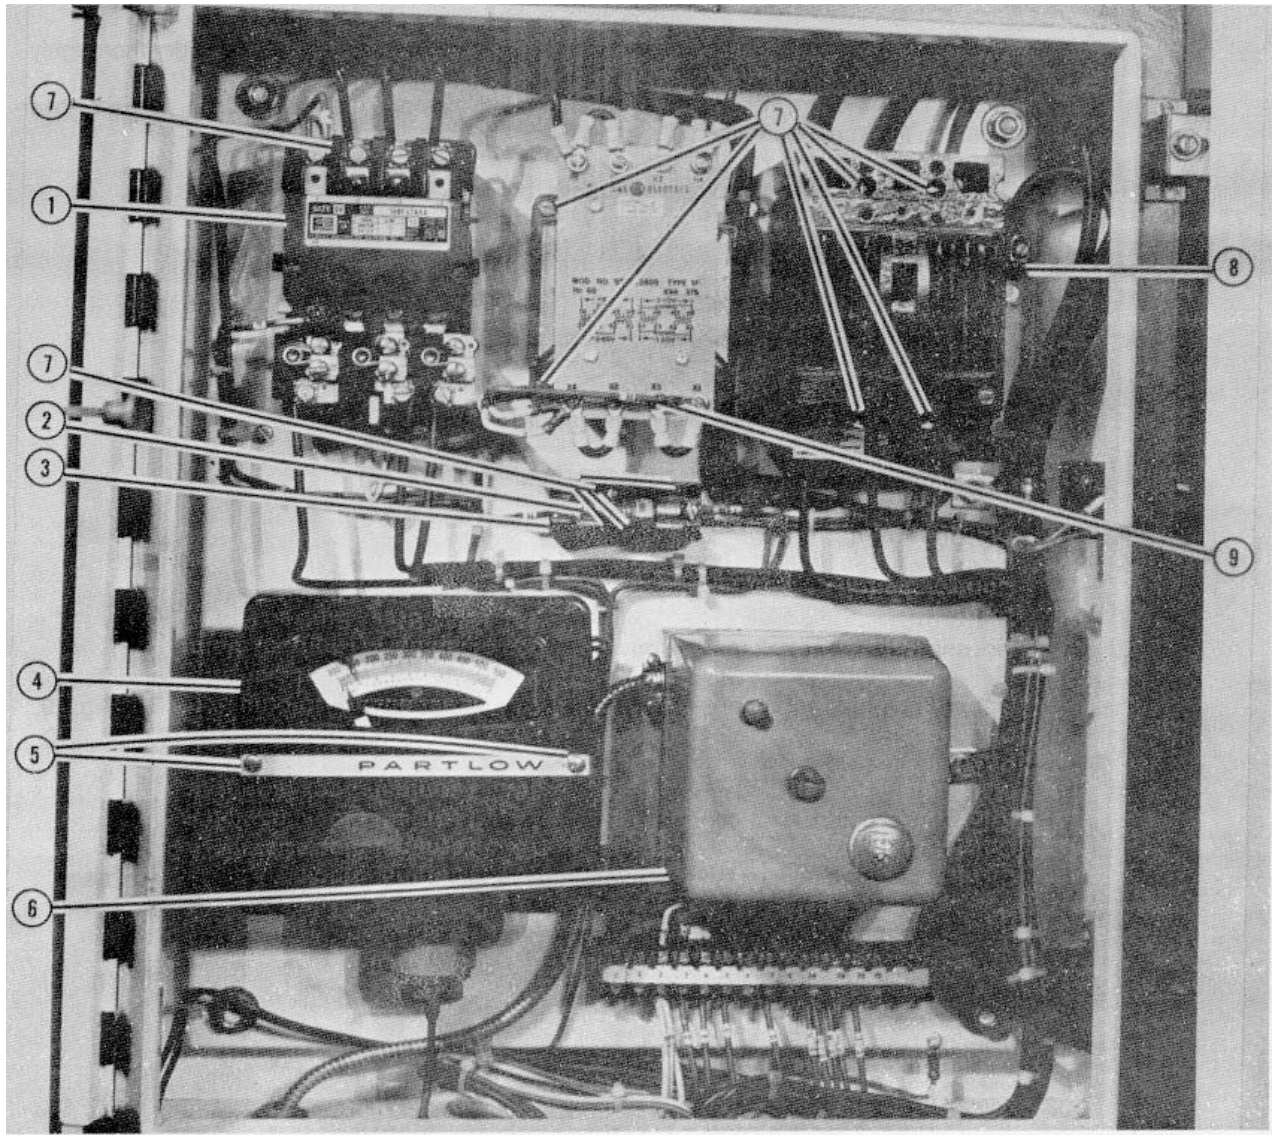

Figure 28. CONTROL BOX EQUIPMENT
- 1. Remove the fuse, Fig. 28.
- 1. Refer to Fig. 28 and install the fuse block in reverse order of removal.
- 2. Refer to Fig. 28 and remove the blower motor starter.
3. Remove mounting screws; refer to Figs. 28 & 31 and remove control from panel. NOTE:TAG AND NOTE ALL ELECTRICAL WIRING.